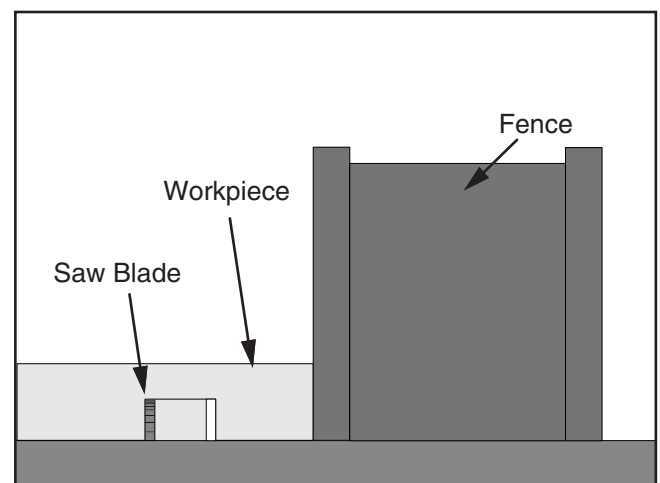

Figure 43. Single-blade dado second cut.
8. Re-adjust the fence so the blade is aligned with the other edge of the intended dado channel (**Figure 43**). Note—Be sure to keep the cuts within your marks; otherwise, the dado will be too big.